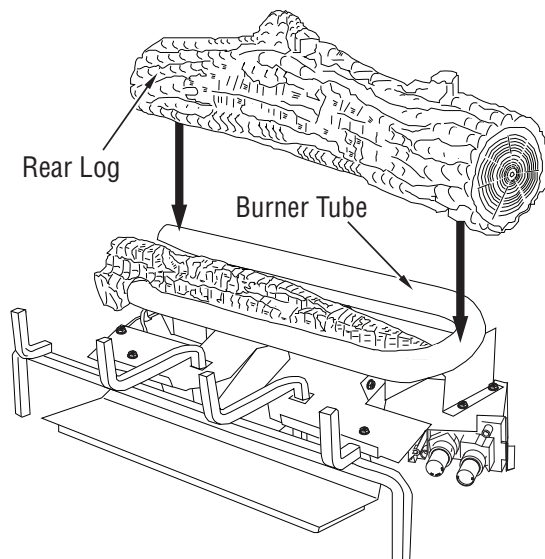

Figure 50 - Installing Rear Log
2. Place the rear log on the base assembly as shown in **Figure 50**. The rear log has grooves in the bottom which will allow the log to sit on the burner and behind the bottom ember log.